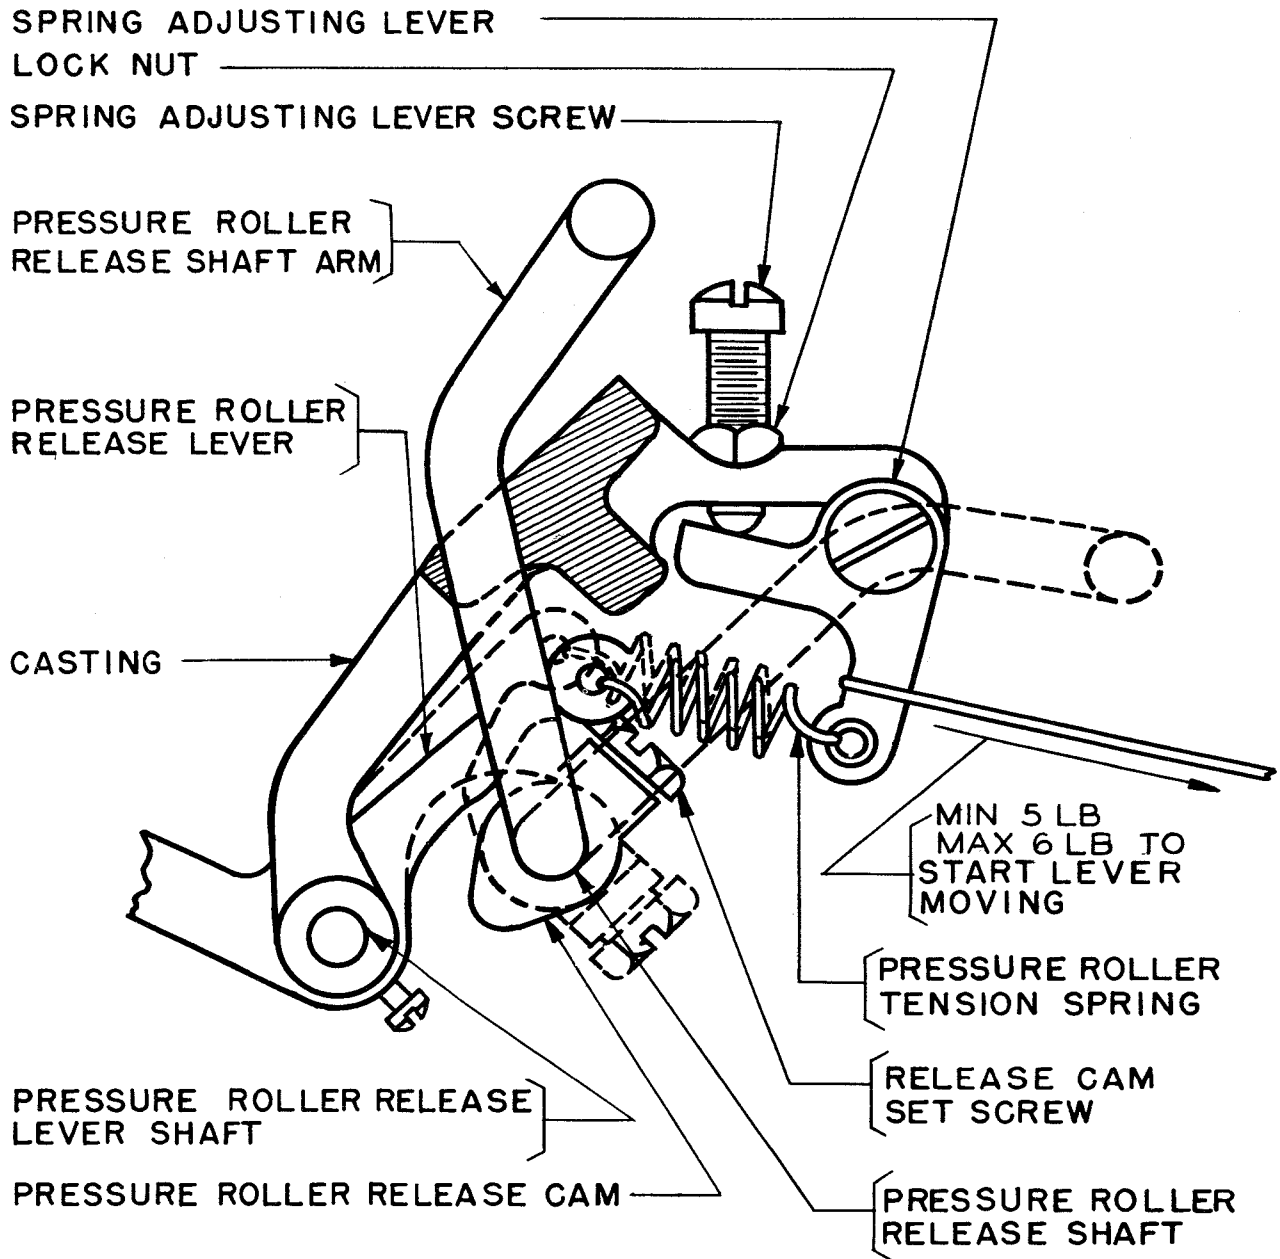

Figure 37
2.80 Pressure-roller Tension Springs should have a tension of minimum 5 pounds, maximum 6 pounds when the pressure-roller release-shaft arm is in its forward position. The tensions of the springs should also be equal. When a paper winder is used, this tension should be minimum 6-1/2 pounds, maximum 7 pounds. See Figure 37.